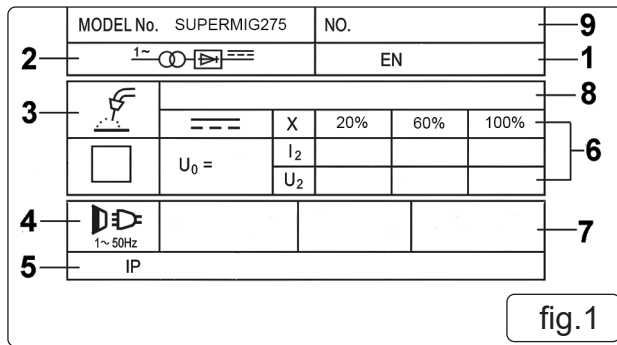

fig.1
**NOTE:** The ratings plate detailed below (fig.1) is an example only intended to assist with the explanations of the symbols. To determine the correct technical values of the machine refer to the data plate on your machine and the specification table above.
6.1.1. Before making any electrical connections, ensure that the mains voltage and frequency of the supply matches the electrical specification of the welding set as stated on the welding set's rating plate (fig.1).